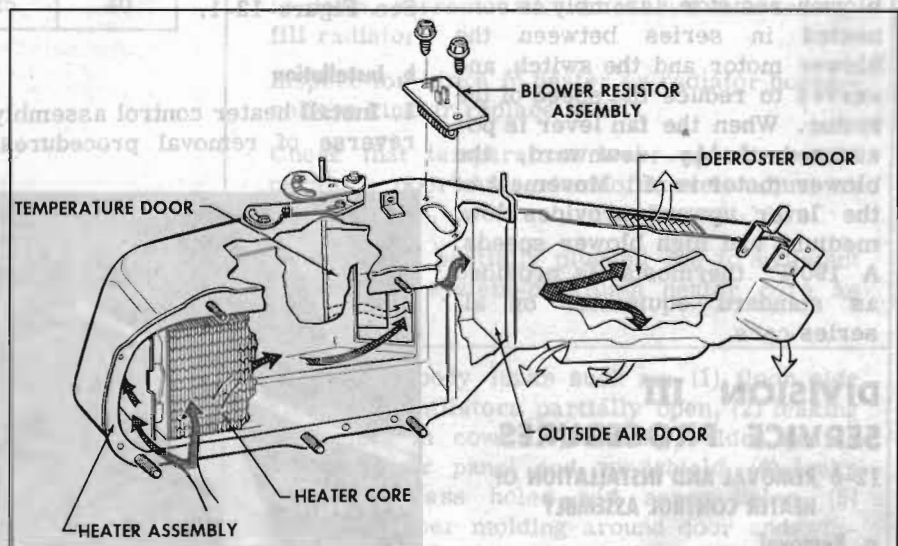

Figure 12-4—Heater Assembly
2. Heater Assembly—The heater assembly (see Figure 12-4)
7. Remove connector from blower resistor assembly (see Figure 12-4).